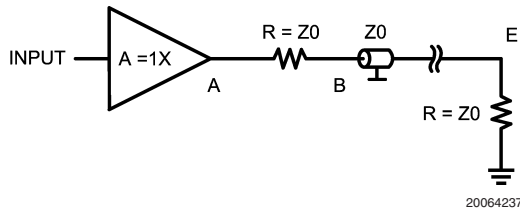
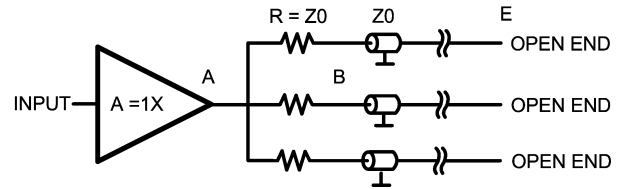
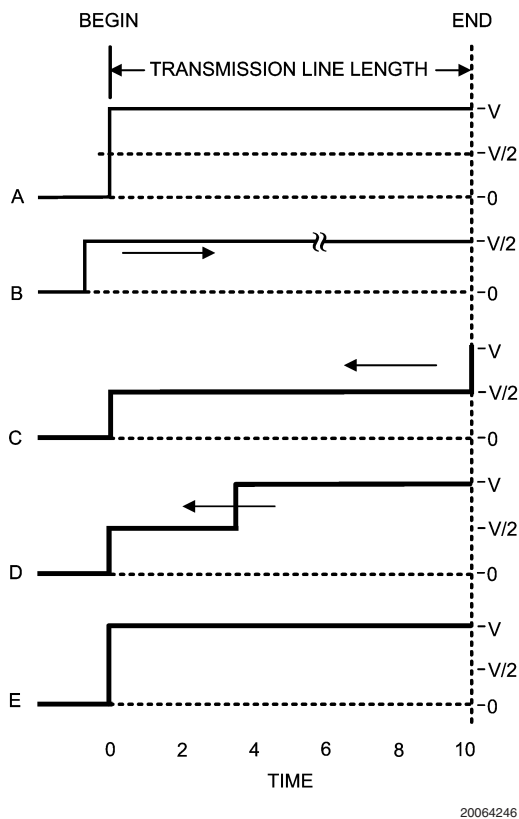

FIGURE 1.
FIGURE 3.
FIGURE 6.
- Use one buffer to drive one transmission line (see *Figure 1*)
- Use one buffer to drive several transmission lines each driving a different receiver. (see *Figure 3*)
In most cases, it is unrealistic to think that we can place a driver or buffer so close to the load that we don't need a transmission line to transport the signal. The pcb trace length between a driver and the load may affect operation depending upon the operating frequency. Sometimes it is possible to do measurements by connecting the DUT directly to the analyzer. As frequencies become higher the short lines from the DUT to the analyzer become long lines. When this happens there is a need to use transmission lines. The next point to examine is what happens when the load is connected to the transmission line. When driving a load, it is important to match the line and load impedance, otherwise reflections will occur and this phenomena will distort the signal. If a transient is applied at $T = 0$ (*Figure 6*, trace A) the resultant waveform may be observed at the start point of the transmission line. At this point (begin) on the transmission line the voltage increases to (V) and the wave front travels along the transmission line and arrives at the load at $T = 10$. At any point across along the line $I = V/Z_0$, where Z_0 is the impedance of the transmission line. For an applied transient of $2V$ with $Z_0 = 50\Omega$ the current from the buffer output stage is $40mA$. Many vintage op amps cannot deliver this level of current because of an output current limitation of about $20mA$ or even less. At $T = 10$ the wave front arrives at the load. Since the load is perfectly matched to the transmission line all of the current traveling across the line will be absorbed and there will be no reflections. In this case source and load voltages are exactly the same. When the load and the transmission line have unequal values of impedance a different situation results. Remember there is another basic which says that energy cannot be lost. The power in the transmission line is $P = V^2/R$. In our example the total power is $2^2/50 = 80mW$. Assume a load of 75Ω . In that case a power of $80mW$ arrives at the 75Ω load and causes a voltage of the proper amplitude to maintain the incoming power.
Many applications, such as video, use a series resistance between the driver and the transmission line (see Figure 1). In this case the transmission line is terminated with the characteristic impedance at both ends of the line. See Figure 6 trace B. The voltage traveling through the transmission line
Another way to reach several points via a transmission line is to start several lines from one buffer output (see Figure 3). This is possible only if the output can deliver the needed current into the sum of all transmission lines. As can be seen in this figure there is a series termination used at the beginning of the transmission line and the end of the line has no termination. This means that only the signal at the endpoint is usable because at all other points the reflected signal will cause distortion over the line. Only at the endpoint will the measured signal be the same as at the startpoint. Referring to Figure 6 trace C, the signal at the beginning of the line has a value of $V/2$ and at $T = 0$ this voltage starts traveling towards the end of the transmission line. Once at the endpoint the line has no termination and 100% reflection will occur. At $T = 10$ the reflection causes the signal to jump to $2V$ and to start traveling back along the line to the buffer (see Figure 6 trace D). Once the wavefront reaches the series
termination resistor, provided the termination value is Z_0 , the wavefront undergoes total absorption by the termination. This is only true if the output impedance of the buffer/driver is low in comparison to the characteristic impedance Z_0 . At this moment the voltage in the whole transmission line has the nominal value of 2V (see Figure 6 trace E). If the three transmission lines each have a different length the particular point in time at which the voltage at the series termination resistor jumps to 2V is different for each case. However, this transient is not transferred to the other lines because the output of the buffer is low and this transient is highly attenuated by the combination of the termination resistor and the output impedance of the buffer. A simple calculation illustrates the point. Assume that the output impedance is 5Ω . For the frequency of interest the attenuation is $V_B/V_A=55/5=11$, where A and B are the points in Figure 3. In this case the voltage caused by the reflection is $2/11 = 0.18V$. This voltage is transferred to the remaining transmission lines in sequence and following the same rules as before this voltage is seen at the end points of those lines. The lower the output resistance the higher the decoupling between the different lines. Furthermore one can see that at the endpoint of these transmission lines there is a normal transient equal to the original transient at the beginning point. However at all other points of the transmission line there is a step voltage at different distances from the startpoint depending at what point this is measured (see trace D).